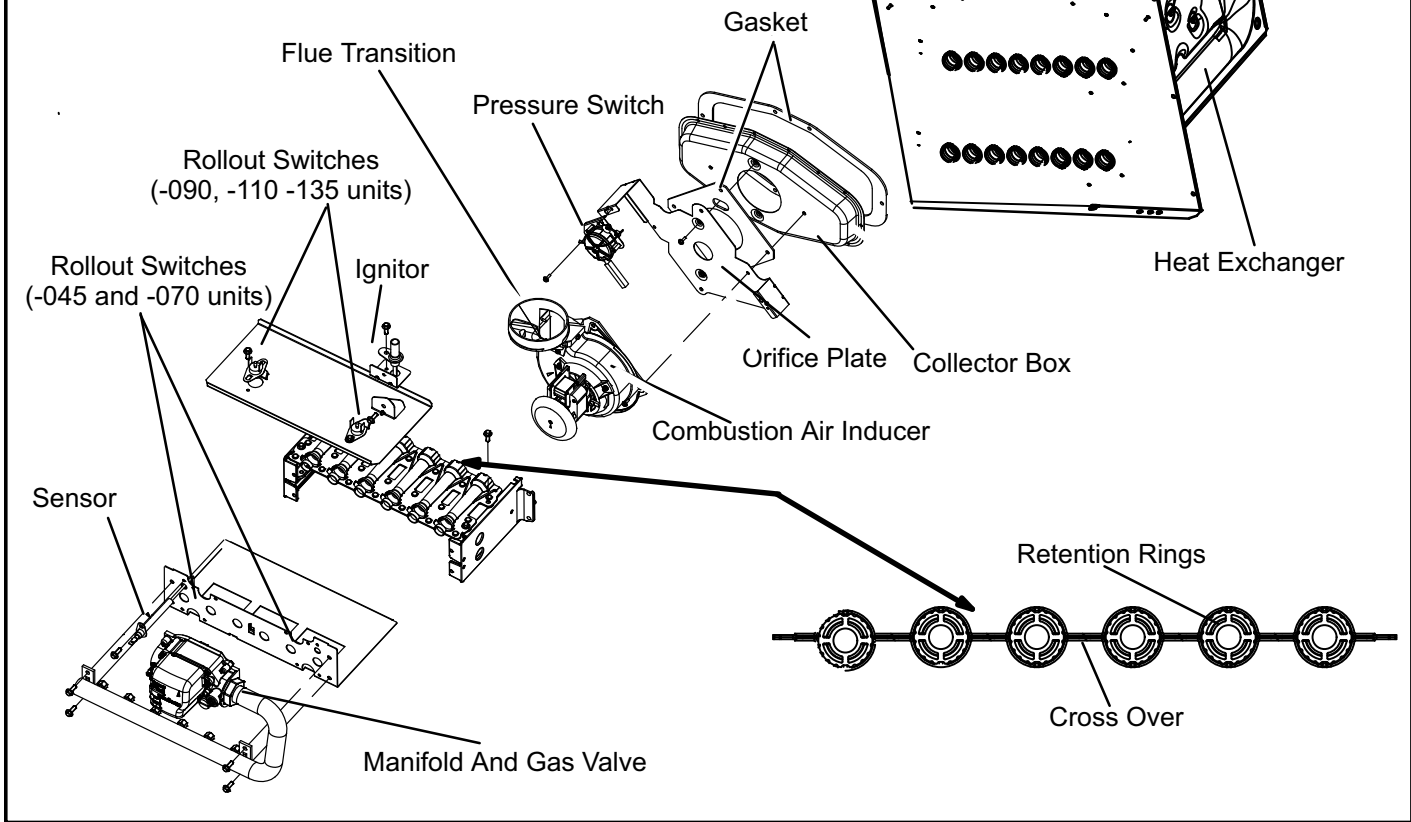

FIGURE 37
- 11 - To clean burners, run a vacuum cleaner with a soft brush attachment over the face of burners. Visually inspect inside the burners and crossovers for any blockage caused by foreign matter. Remove any blockage. Figure 37 shows burner detail.